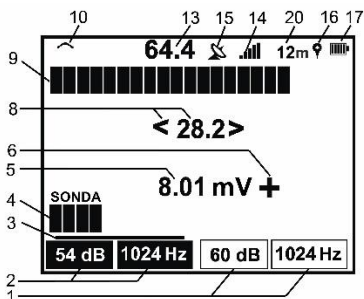

Fig. 20 Display in „Track-SENSOR” mode
- „TRACE-SENSOR – to locate the utility insulation damage and detect the depth of damaged area; to detect the short-circuited areas or wire break and select the conductors in the multi-core cables. The display of this mode is shown in Figure 20.